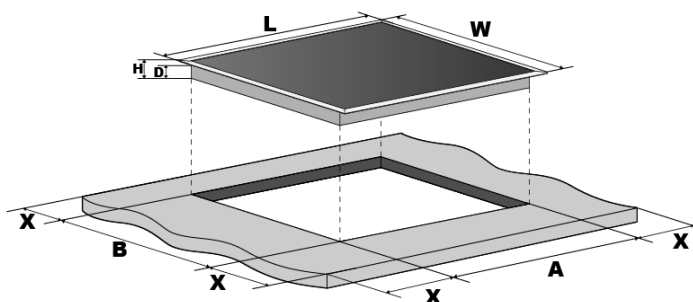

Fig 1
- Cut the work surface according to the dimension shown in the above table (Fig.1)
- A minimum of 50mm space shall be kept around the hole (refer to "X" in Fig.1)